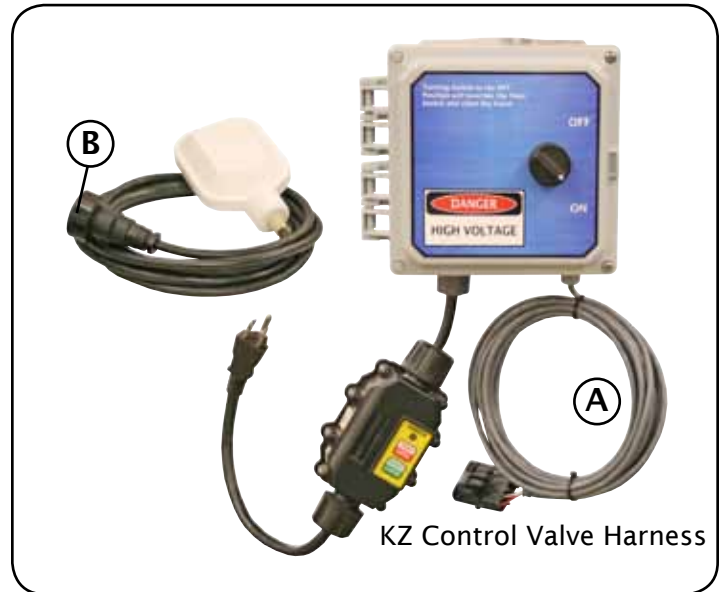

figure 1
- The DU KZ1 is supplied with a 15' control cable to run a 24 volt KZ Valve. **(Fig. 1-A)** It is suggested to install the valve within reach of the control cable. If this is not possible an extension harness can be purchased. See Parts Breakdown for part numbers needed, order cable to specific length.
- For through tank mounting you will have to remove to cable connector. **(Fig 1-B)** (See page 3)